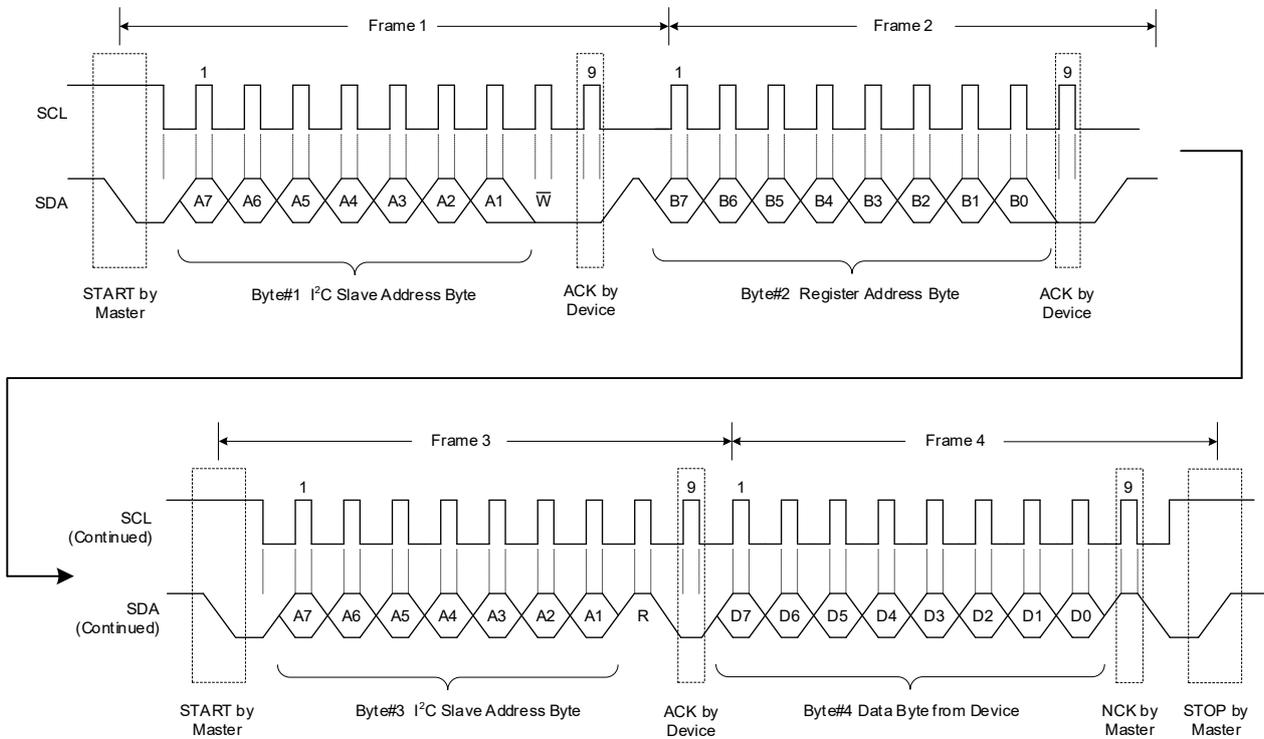

Figure 10. A Single Read Transaction
**READ:** If the master wants to read a single register (Figure 10), it sends a new START condition along with device address with R/W bit = 1. After ACK is received, master reads the SDA line to receive the content of the register. Master replies with NCK to inform slave that no more data is needed (single read) or it can send an ACK to request for sending the next register content (multi-read). This can continue until an NCK is sent by master. A STOP must be sent by master in any case to end the transaction.